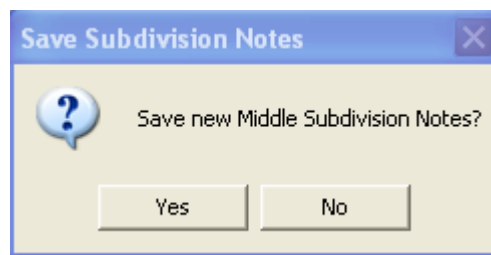

Figure 1-9
- f) Since we currently have no other subdivisions, we need not go into the "Middle Subdivisions" section, but let's have a quick look in there. Once you click on the "Middle Subdivisions" (tt) you will be asked about saving the Middle Subdivision Notes (see Figure 1-9). Note that you will be asked this question if any of the data has been changed, regardless of whether you went into the "Middle Subdivisions" section. Clicking on the "Middle Subdivisions" button also closes the "Middle characteristics" window.